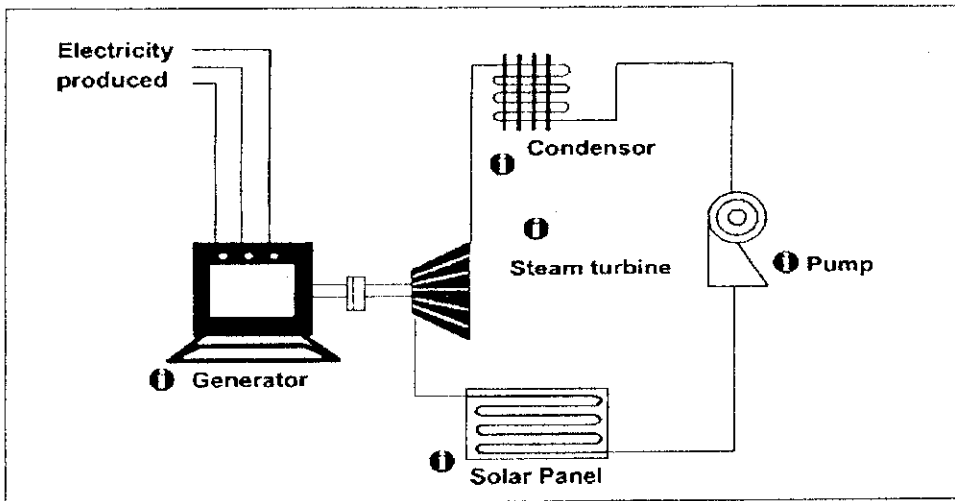

Figure 7
- b) Figure 7 shows a process of electricity generation using solar energy. Explain how solar energy can produce electricity.